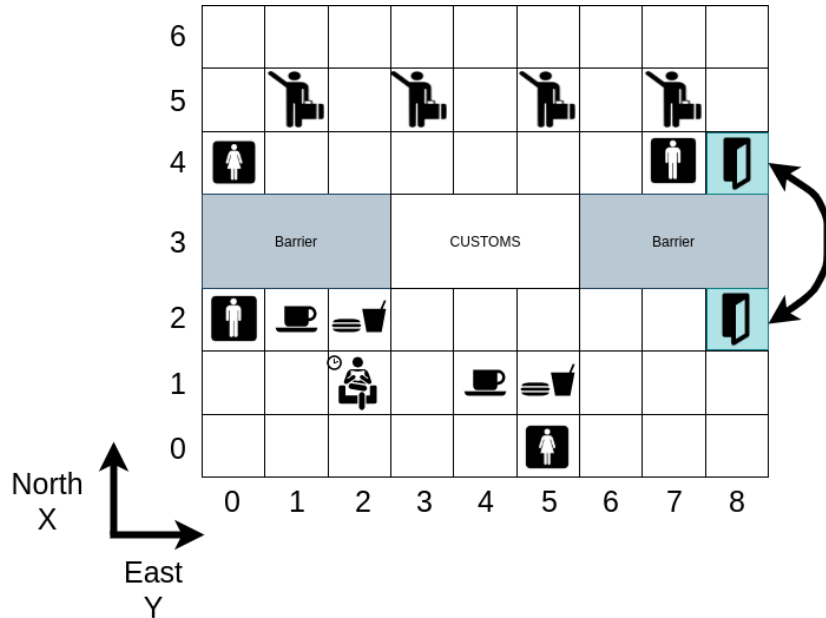

Figure 2: Discretised map of Figure 1. This figure is drawn to scale. Therefore, you may consult it to identify coordinates of different areas in the map.
Figure 1: Overview of the arrivals area scenario. This is very loosely based on Heathrow Terminal 4. (Please note this figure does not mark the customs area or the robot access tunnel. These details are shown in Figure 2.)
3. The cleaning robot has been tasked with finding locations to clean (food, toilets) while avoiding high traffic areas (reclaim, waiting area). Figure 2 depicts a discretised map of the airport, where the cleaning locations and high traffic area locations are given. Entering a cleaning location or high traffic area ends the episode, and the robot will be randomly placed in a valid empty position on the grid at the start of the next episode. To move on the map, the robot can rotate clockwise and counterclockwise, which changes the heading but remains at the same position. It can also move forward (in the direction of heading). Barriers and customs area are no-go zones. Attempting to enter these zones will result in no change in position. The robot has access to a trapdoors at location $x = 4, y = 8$ and $x = 2, y = 8$. To use it, the robot must be at the trapdoor position, heading east. With a forward action, the next position will be the other trapdoor heading west.